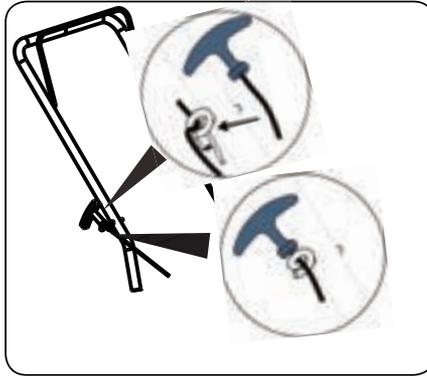

Figure 3-2.
3. Put the starter rope into the hook. See Figure 3-2.